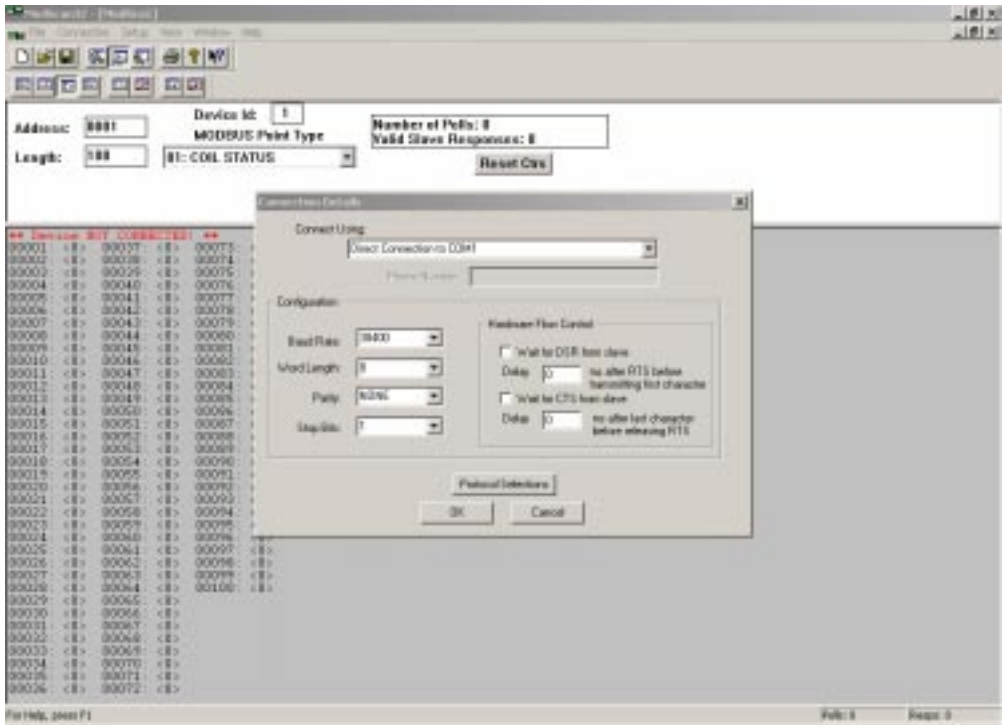

FIGURE 16. FT-10 NETWORK CONNECTION DETAILS DIALOG BOX
- 1. From the tool bar, select Connection → Connect. The Connection Details dialog box is displayed (see Figure 16). The Device ID is 1.
shown in Figure 16. Use the pull down menus to change these settings as necessary.